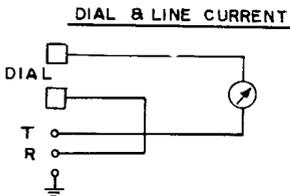

FIGURE 3. Input Circuit
3.04 A schematic of the input circuit for the three modes of the test set are shown in Figures 3, 4, and 5.